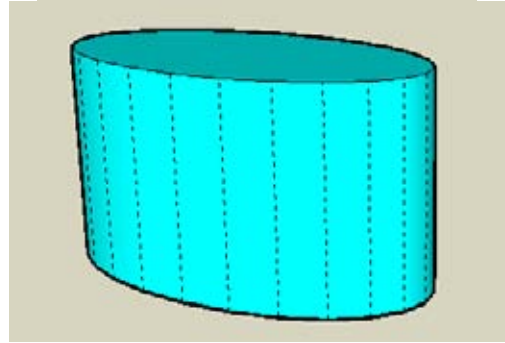

Figure 4-8
2. To be able to draw or edit anything on a round face, you need to see the flat segments that compose the face. Choose View→Hidden Geometry to see the dashed lines that indicate where the hidden edges are (Figure 4-8).